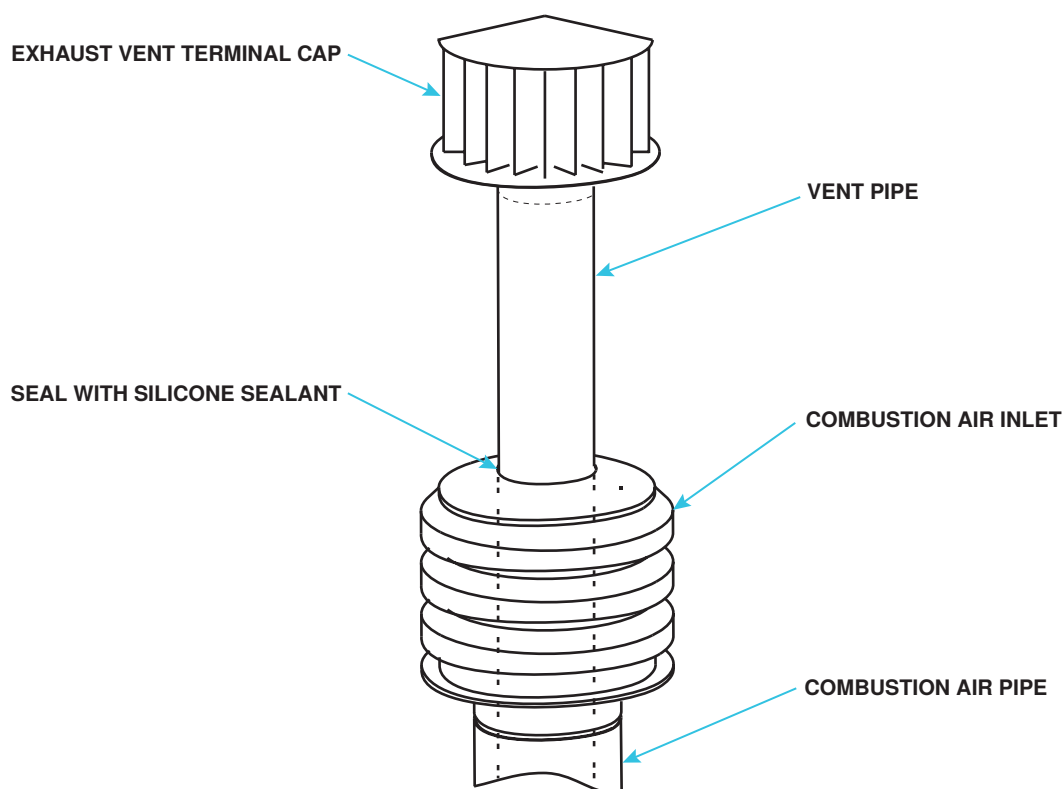

Figure 22. Combustion Air Inlet and Vent Terminal Installation
8. Install combustion air inlet (see **Figure 22**):
9. Install exhaust vent terminal (see Figure 22) in accordance with Figure 11.